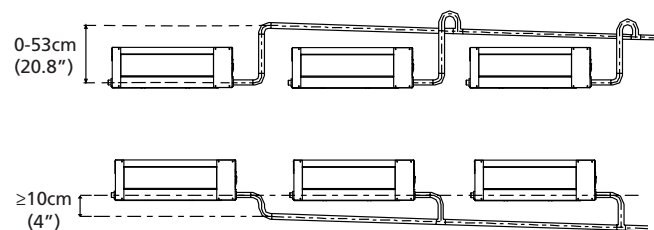

Fig. 6.4
**NOTA:** La conectarea conductelor multiple, respectati fig. 6.4